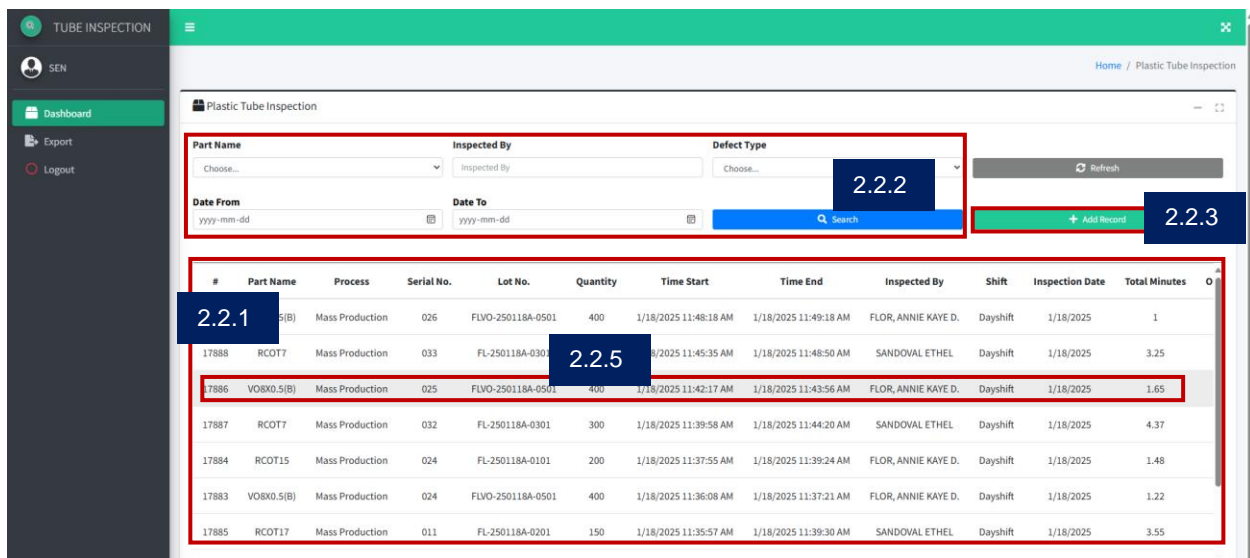

Figure 2. User – Dashboard Page
2.2.1 The table displays a list of plastic tube inspection records, ordered by the date they were added. *See Figure 2*
2.2.2 The data can be filtered by utilizing the search fields (such as part name, inspected by, defect type, date from, and date to), then click on the Search button. *See Figure 2*
2.2.3 Click on the Add record button to view the add record form. *See Figure 2*